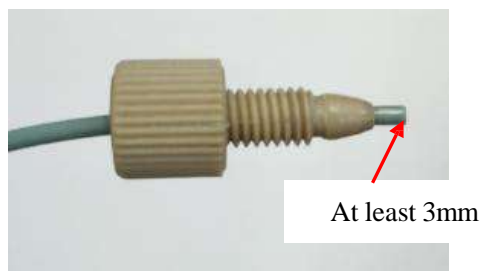

Figure 3-2 Remove the plus of new chromatography column Figure 3-3 Extend the tube
- Loosen the plugs at both ends of the new chromatography column (Figure 3-2), first extend the tubes connecting the outlet and inlet of the chromatography column by more than 3mm (Figure 3-3), and then respectively connect the tubes to the inlet and outlet of chromatography column by hand.